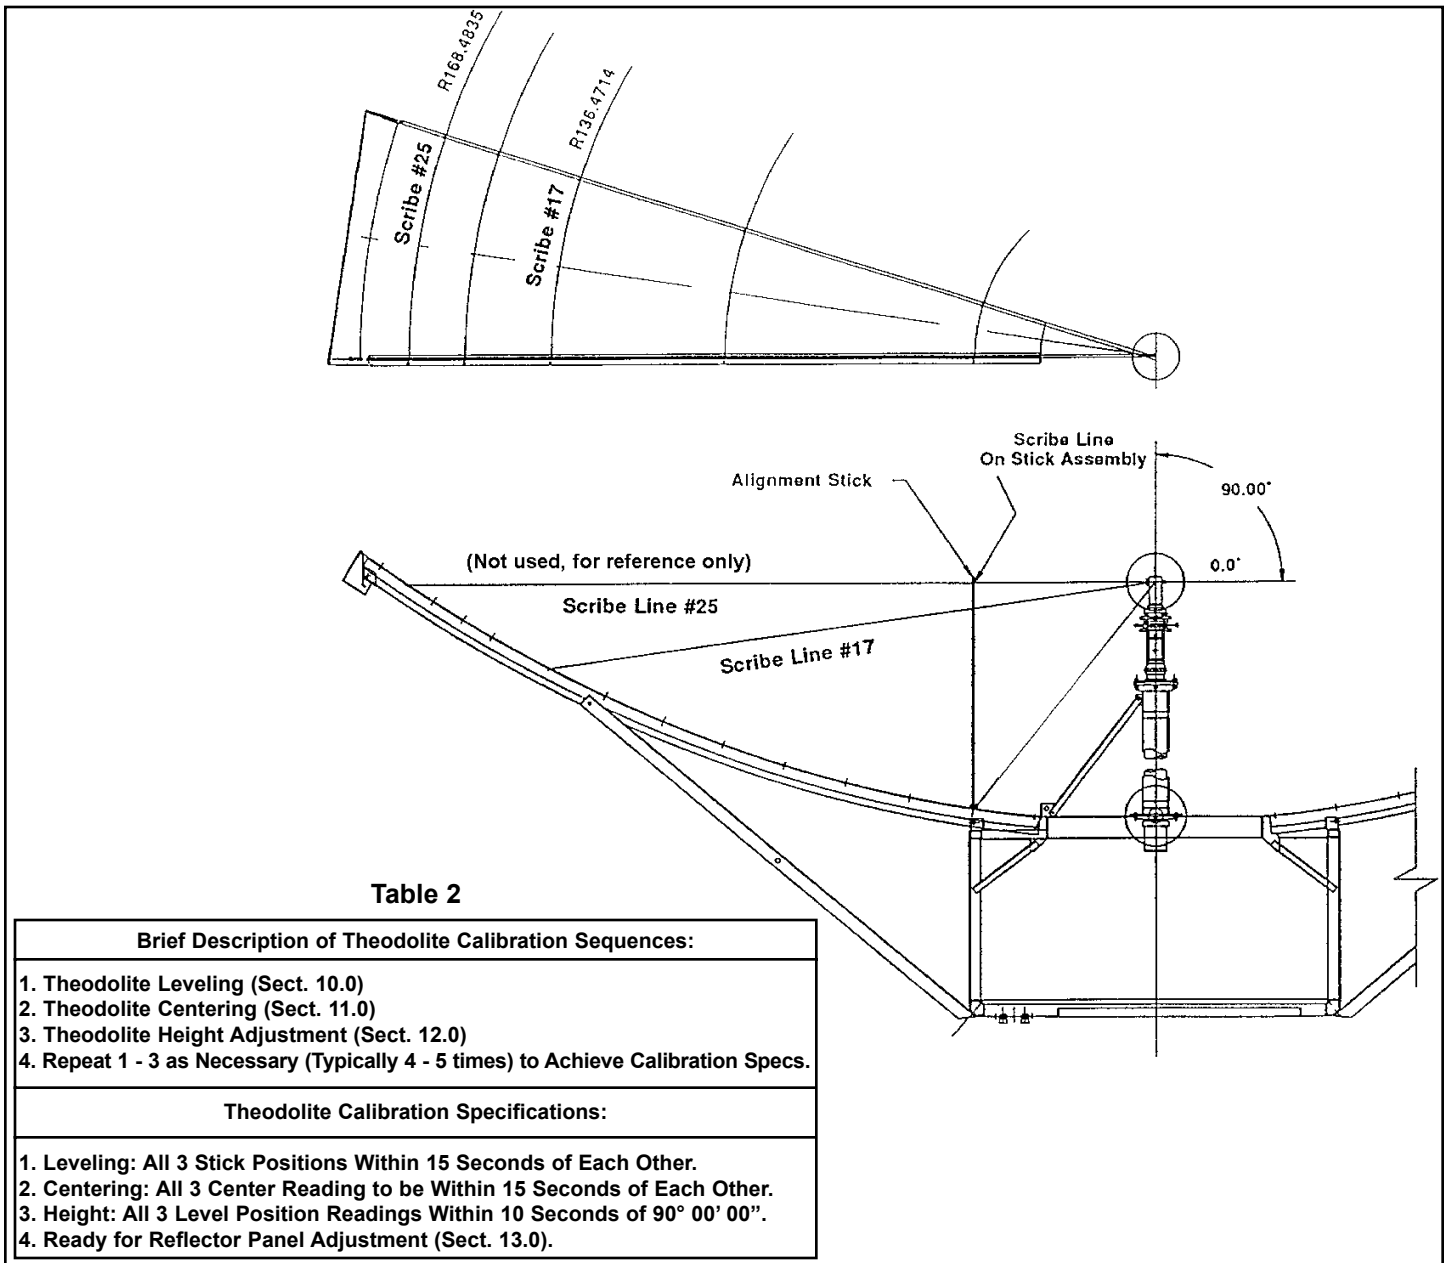

Figure 39
- Step 1** Refer to Figure 39. The height adjustment of the theodolite is performed utilizing the precision lift assembly. This device can lower or raise the theodolite to the desired height by rotating the large rim located at the center of the upper body of the device.